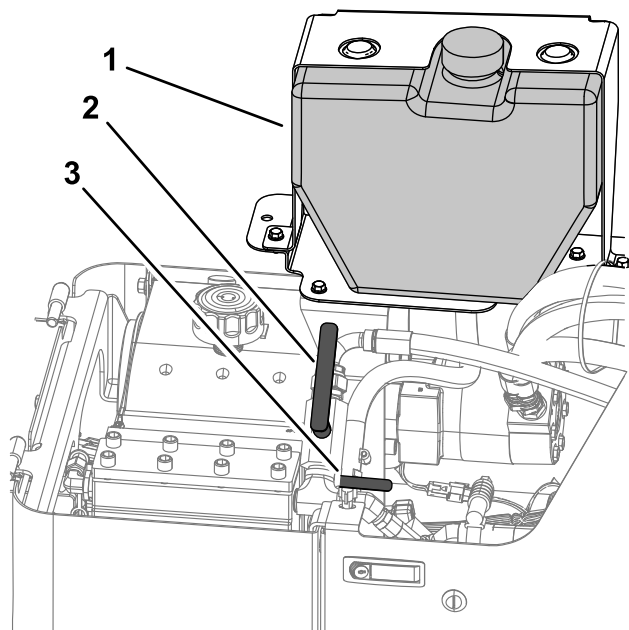

Figure 122
4. Turn the drilling-fluid valve clockwise to the OFF position (Figure 122).
Turn the spray-hose attachment switch to the ON position (Figure 122).